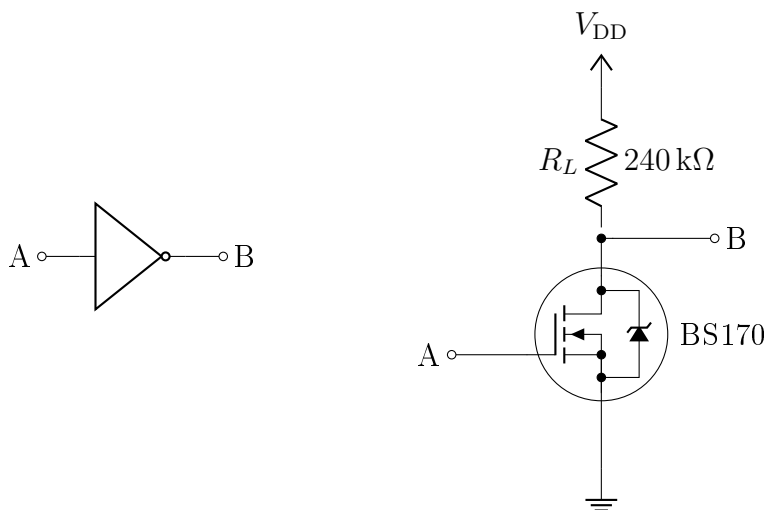

Figure 3: Inverter Gate Symbol and Discrete Diode Implementation
An inverting function cannot be implemented with diodes and resistors alone. A transistor is needed to provide the inverting action. In this lab, you will use the BS170 N-type Metal Oxide Semiconductor Field Effect Transistor (NMOSFET). If the voltage present at the gate of the transistor is above 0.7 V (high), the transistor will conduct, reducing the output voltage to logical ‘0’. If the input voltage is logical ‘0’ (low), then the transistor does not conduct, and zero voltage drops across the load resistor which results in the output voltage being ‘1’. A current-limiting resistor at the gate is always needed, otherwise excessive gate current might destroy the transistor. The circuit used in the electrical characterization of the MOS inverter with a resistive load is shown in Figure 3. Digital integrated circuits are circuits based on the principles of Boolean algebra. The binary logic variables in this algebra can assume only one of two possible values which are called the logical ‘0’ and ‘1’ levels. In the electronic circuit implementation of Boolean algebra, these variables correspond to the values designated by the voltages  $V_{OL}$  and  $V_{OH}$ .
We usually denote negation with a bar above a character. Hence, in Figure 3 we have
1. Wire the diode Inverter gate using a BS170 MOSFET on a breadboard as shown in Figure 3 and verify its truth table by applying 0 and 5 V (2 combinations) to the input A. Construct  $R_L$  with 3 resistors in series (two  $100k\Omega$  and one  $24k\Omega$  resistors). Measure the value of the output voltage. Note the voltage drops across the inverter circuit and their effect on the output voltage.